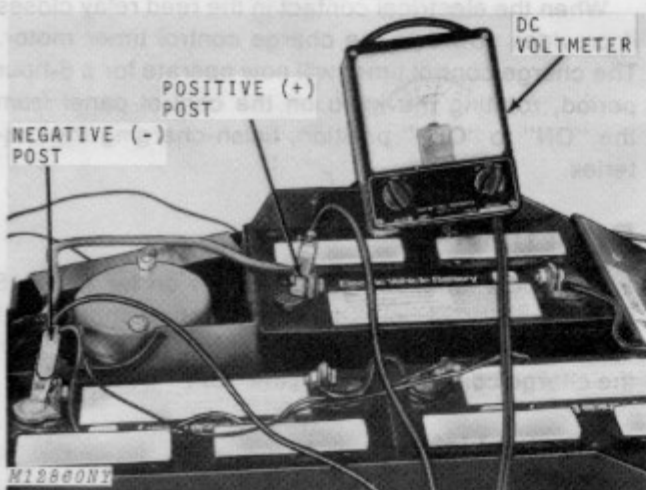

Fig. 2-DC Voltmeter Connected to Battery Pack
1. Connect a DC voltmeter to the battery pack, Fig. 2.